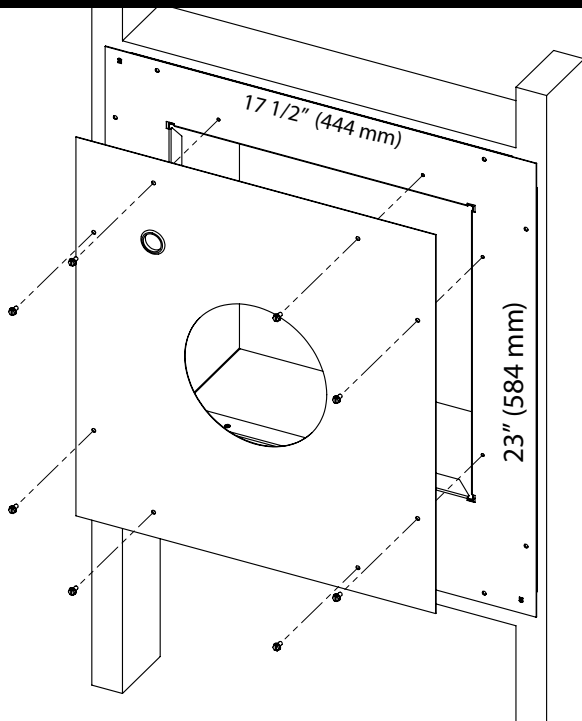

Figure 9: Inner wall plate installed
6. Mount the inner wall plate to the interior thimble using eight (8) of the supplied black screws as shown in Figure 9.